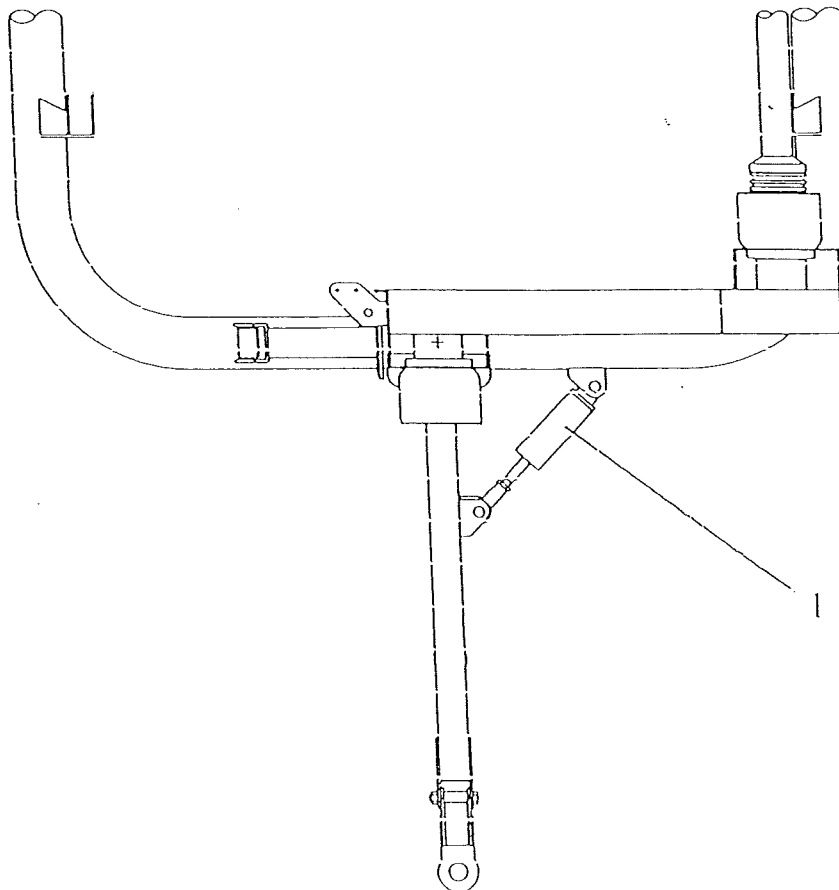

Fig 7.2
The lanes adjuster is an hydraulic double acting cylinder mounted between the drawbar and the main chassis (fig 7.2 item 1). and is controlled by a joystick on the drivers switch control box (see section 4 Controls). The lanes adjuster should be used in conjunction with the steering to centralise the machine in the rows being lifted.